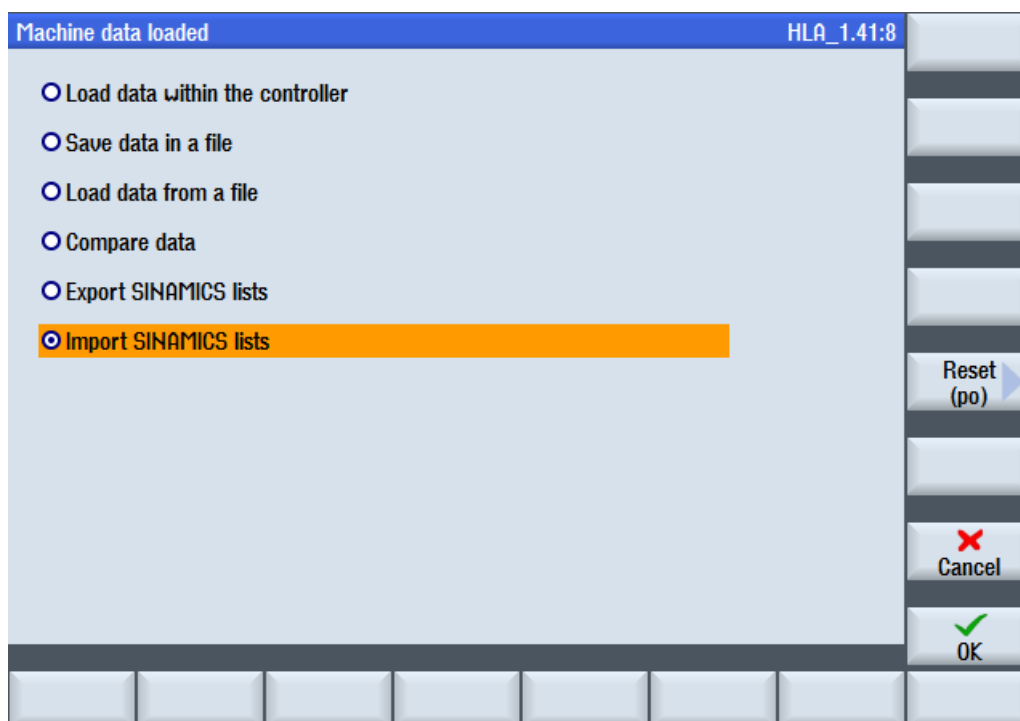

Figure 4-21 Loading machine data
3. You can access the "Machine data loaded" dialog using the "Manage data" softkey (see Figure 4-21 Loading machine data (Page 81)).